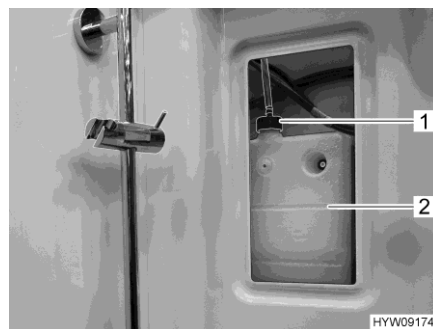
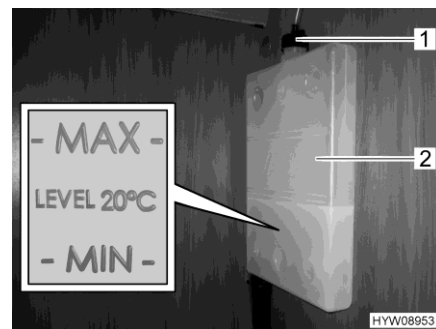

Fig. 223 Compensator reservoir (hot-water heater)
Fig. 224 Marking "MIN/MAX"
- Remove the cover for the compensator reservoir (Fig. 223,2) in the right-hand upper part of the shower.
- Check if the fluid level is between the marks "MIN" and "MAX" (Fig. 224) on the compensator reservoir (Fig. 224,2).
- Open the rotary lid (Fig. 223,1 or Fig. 224,1) on the compensator reservoir.